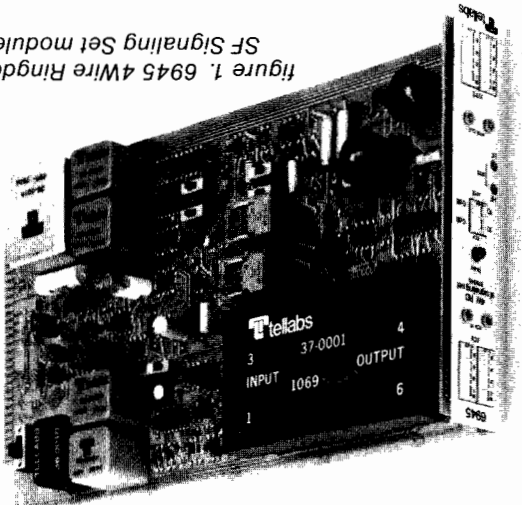

figure 1. 6945 4Wire Ringdown SF Signaling Set module
1.01 The Telabs 6945 4Wire Ringdown SF Signaling Set module (figure 1) provides signaling and transmission interface between a 4wire transmission facility and a metallic 4wire ringdown signaling loop. Specifically, the module provides SF signaling over the 4wire facility, conversion between that SF signaling and the loop signaling used in automatic or manual ringdown applications, and extension of this ringdown signaling toward the 4wire termination. Level coordination in the transmit and receive paths is provided by means of adjustable precision attenuators. Conventional 2600Hz SF tone is standard. Other frequencies are optionally available by special order.